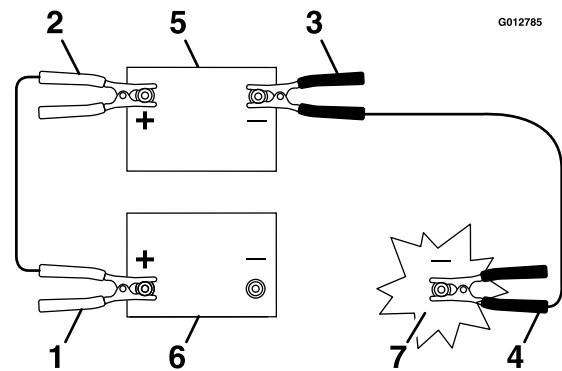

Figure 86
2. Carefully slip back the insulator cover of the positive battery cable (Figure 86).
3. Connect the positive (+) cable clamp (red) to the positive (+) terminal of the discharged battery (Figure 86).